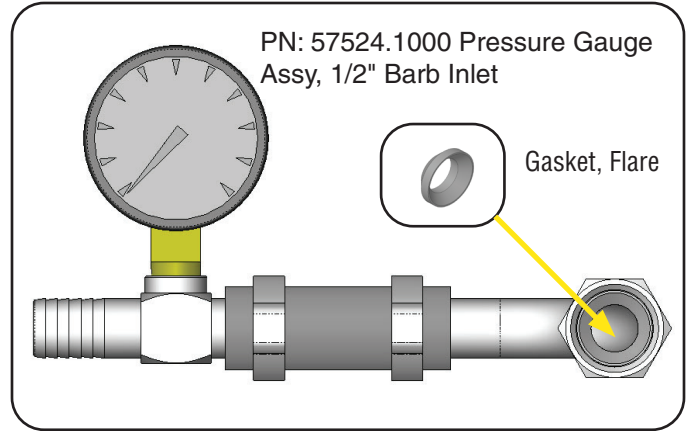

FIG.2 Plumbing Connection - 1/2" Barb to 1/2" FFL
**NOTE:** BUNN requires a pressure gauge at the inlet of the dispenser for diagnostic purposes. Accessory Part Number: 57524.1000 - Pressure Gauge Assy, 1/2" Inlet (Fig. 2)